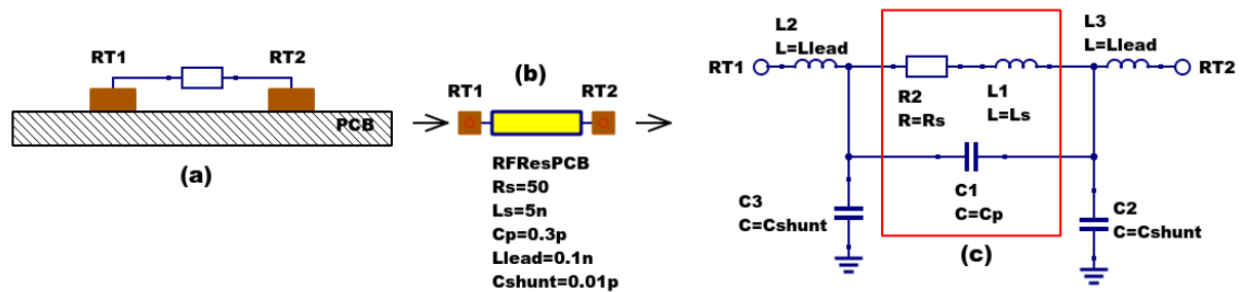

Figure 2 - PCB mounted resistor: (a) axial component mounting, (b) Qucs symbol and (c) equivalent circuit model.
The schematic symbol, I/V equation and parameters of the Qucs linear resistor model are shown in Figure 1. In contrast to this model Figure 2 illustrates the structure of a printed circuit board (PCB) mounted metal film (MF) axial RF resistor (a), its Qucs schematic symbol (b) and its equivalent circuit model (c). A thin film surface mounted (SMD) resistor can also be represented by the model shown in Figure 2 (c).
At signal frequencies where the largest dimension of an axial or SMD resistor is less than approximately 20 times the smallest signal wavelength a resistor can be modelled by a lumped passive circuit consisting of a resistor **Rs** in series with a small inductance **Ls** with the combination shunted by parasitic capacitor **Cp**. In Figure 2 **Rs** is the nominal value of resistor at its parameter extraction temperature **Tnom**, **Ls** represents the inductance associated with **Rs** where the value of **Ls** is largely determined by the trimming method employed during component manufacture to set the value of **Rs** to a specified tolerance. Similarly, capacitor **Cp** models a parasitic capacitance associated with **Rs** where the value of **Cp** is a function of the physical size of **Rs**. At RF frequencies it is important, for accurate operation, to add lead parasitic elements to the intrinsic equivalent circuit model shown within the red box draw in Figure 2. In Figure 2 **Llead** and **Cshunt** represent resistor series lead inductance and shunt capacitance to ground respectively.
A typical set of model parameters for a 51Ω 5 % MF axial resistor are (1) **Ls = 8nH**, **Cp = 1pF**, **Llead = 1nH** and **Cshunt = 0.1pF**. Illustrated in Figure 3 is a basic S parameter test bench circuit for measuring the S parameters of an RF resistor over a frequency range 1 MHz to 1.3 GHz. This example also demonstrates how the real and imaginary parts of a resistor model impedance can be extracted from S parameter simulation data. The graphs in Figure 3 clearly demonstrate that the impedance of the typical MF RF resistor described in previous text and modelled by the equivalent circuit shown in Figure 2 is a strong function of frequency at higher frequencies in the band 1 MHz to 1.3 GHz.
Figure 8 - Qucs device model parameter extraction system applied to a nominal 47 Ω resistor represented by the subcircuit model illustrated in Figure 2 (c). Fixed model parameter values: **$R_s = R_m = 47.3 \Omega$** , **$C_{Shunt} = 0.08 \text{ pF}$** ; Optimised values: **$L_s = L = 10.43 \text{ nH}$** , **$L_{lead} = LL = 1.47 \text{ nH}$** , **$C_p = C = 0.69 \text{ pF}$** . To reduce simulation time the ASCO cost variance was set to 1e-3. The ASCO method was set to DE/best/1/exp.
Figure 13 - Qucs device model parameter extraction system applied to a nominal 100 Ω SMD resistor represented by the subcircuit model illustrated in Figure 2 (c).
Listed below is an example Verilog-A code model for the RF resistor model introduced in Figure 2 (c). Due to the limitations of the Verilog-A language subset provided by version 2.3.4 of the "Analogue Device Model Synthesizer" (ADMS)⁴ inductors **Ls** and **Lead** are modelled by gyrators and capacitors with values identical to **Ls** or **Lead**.